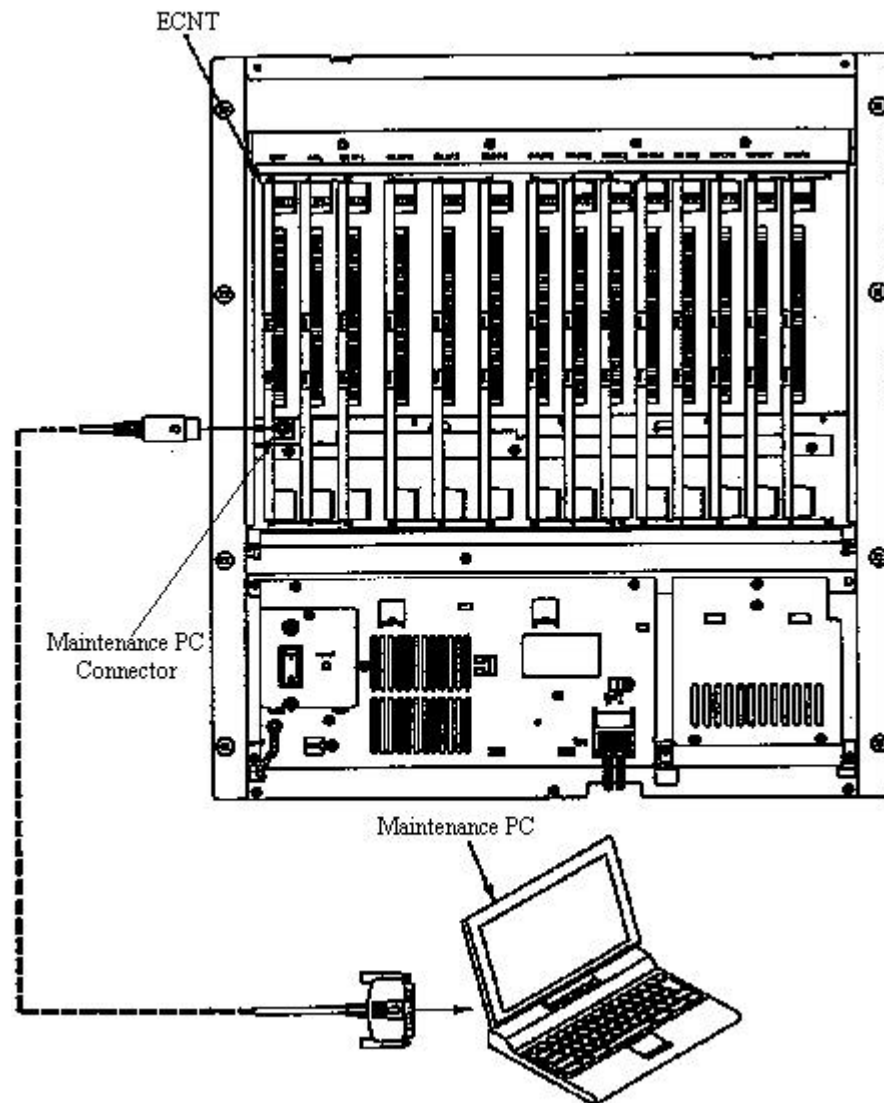

Figure 2-21: Maintenance Terminal or PC Connection
14. Connect the RMT or PC to the connector on the ECNT module. See Figure 2-21.